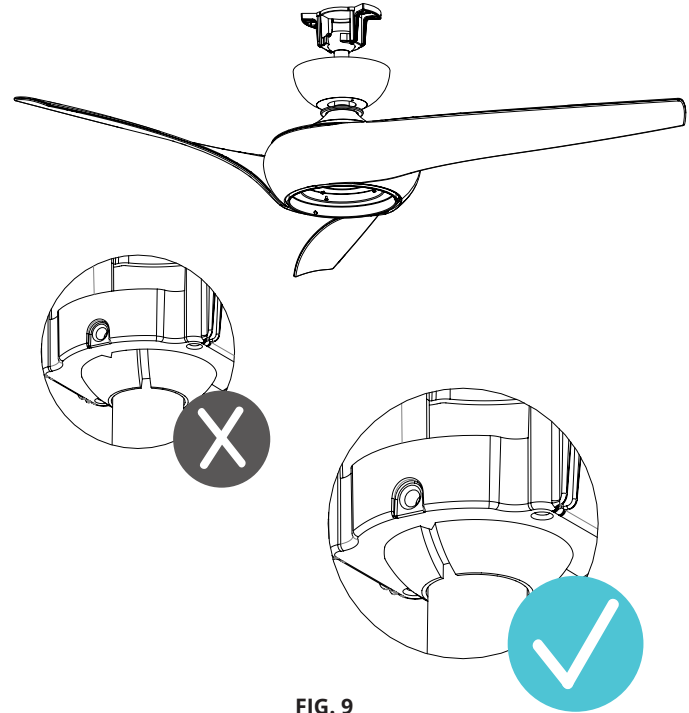

FIG. 9
1. Carefully lift the fan motor assembly up to the mounting bracket and seat the hanger ball in the mounting bracket socket. Make sure the tab on the mounting bracket socket is properly seated in the groove in the hanger ball (**FIG.9**). Rotate the socket assembly until the ball drops and locks into the hanger bracket screw.